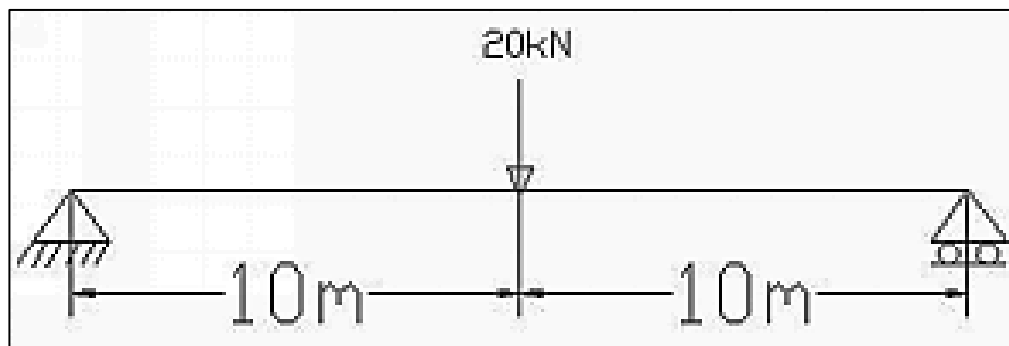

Fig. 8
8. (a) Calculate the value of deflection at the mid-point and rotation at the left support of the simply supported beam as shown in Fig. 8 below using double integration method. Assume EI to be constant throughout. [[CO3](Analyse/HOCQ)]